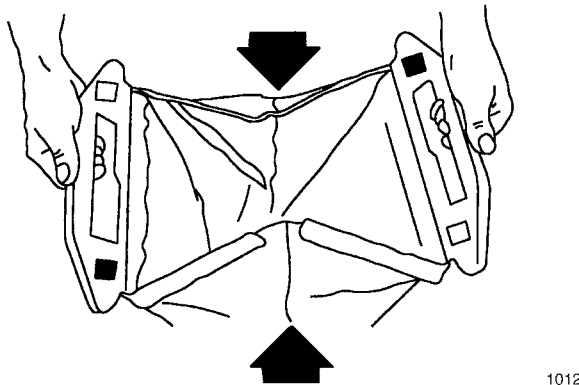

Figure 45
- Close rear of bag by folding sides in and pressing interlocking rear handle halves together (Fig. 45).